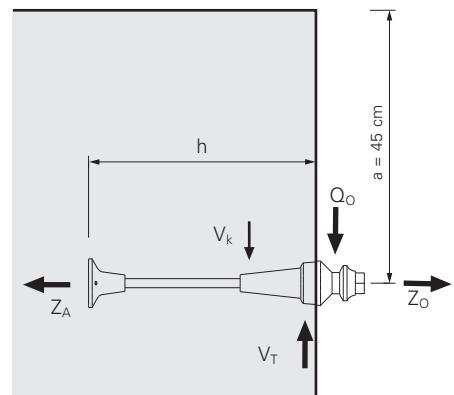

Fig. C1.01
- The maximum tensile force Z_O is diverted into the concrete via the pressure on the threaded anchor plate Z_A . (Fig. C1.01)